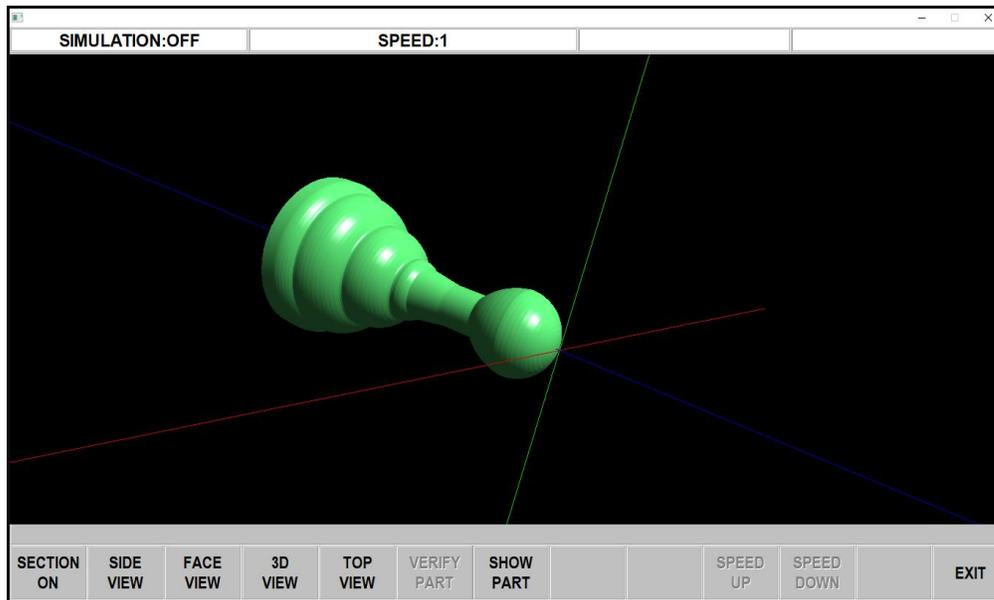

Figure 22
9. Press the VERIFY PART then MAKE PART soft keys to enter the SIMULATION screen. Press VERIFY PART to preview a simulation of the program operations (Figure 22). Press EXIT when done exploring this view.